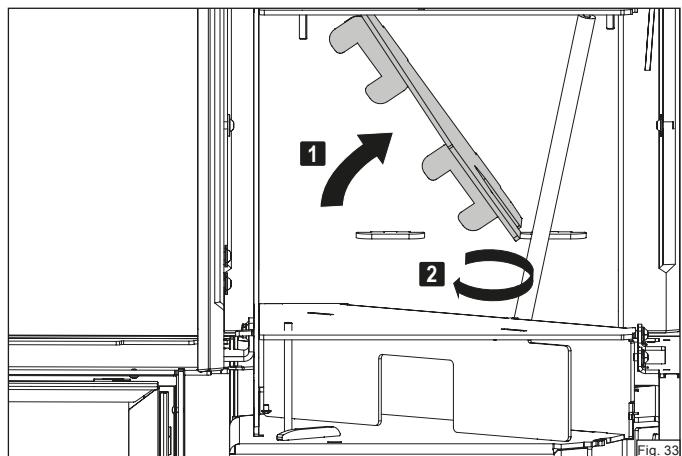

Fig. 33
- ▶ Turn the baffle plate over to the top **1** (Figure 33).
- ▶ Turn the baffle plate over to the left **2** (Figure 33).